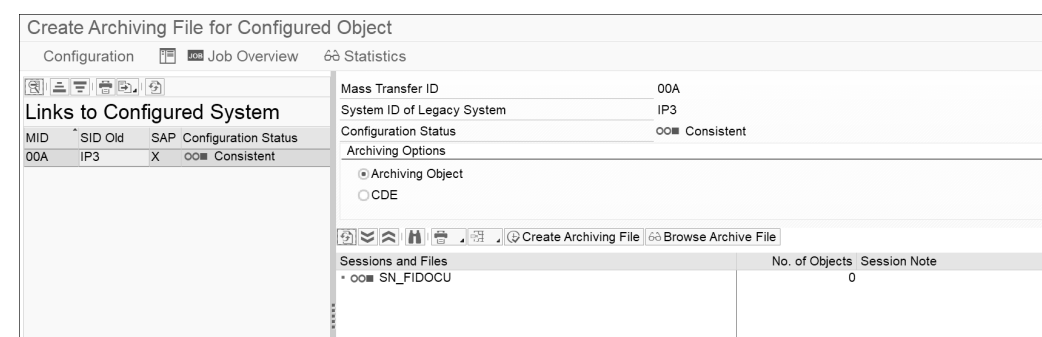

Figure 8.23 Transaction ILM_LTRUN: Generate Archive Write Program
2. Double-click on the left side of the screen on the mass transfer ID created as in the previous section on configuration. In the right half of the screen, you can now see the corresponding archiving objects that were also created during configuration (see Figure 8.23).